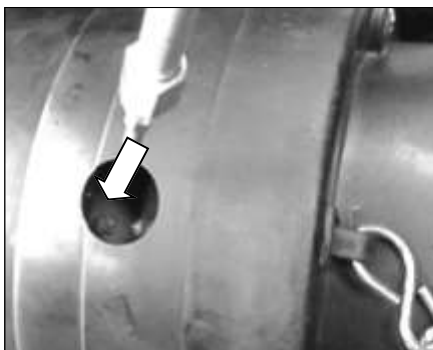

Fig. 52
- Also visible through the same hole in the cover is a second fitting on the end of the inner universal joint cross (Fig. 52). Apply **4 - 8 pumps** of multi-purpose grease.